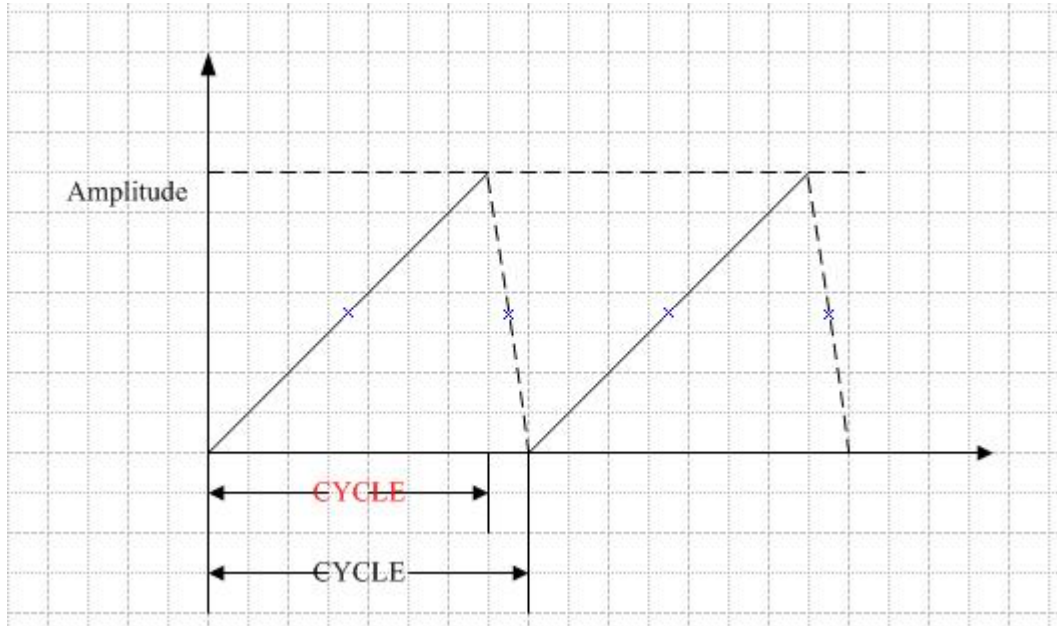

Figure 118 Cycle Chart
- When BASE=0 and the function type is SAWTOOTH_RISE or SAWTOOTH_FALL, the cycle shown by CYCLE is shown by the black font (other than red font) in the Figure 118 below (for there is not the vertical waveform in the actual signal, namely, one time point does not correspond to two values).